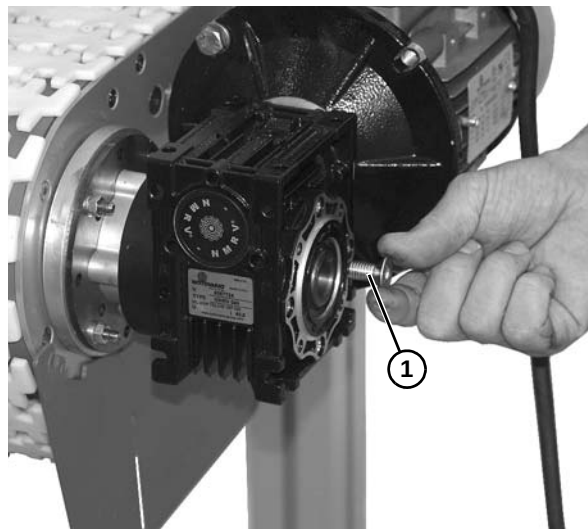

Figure 50
4. Install and tighten flat head screw (**Figure 50, item 1**) onto the drive shaft.